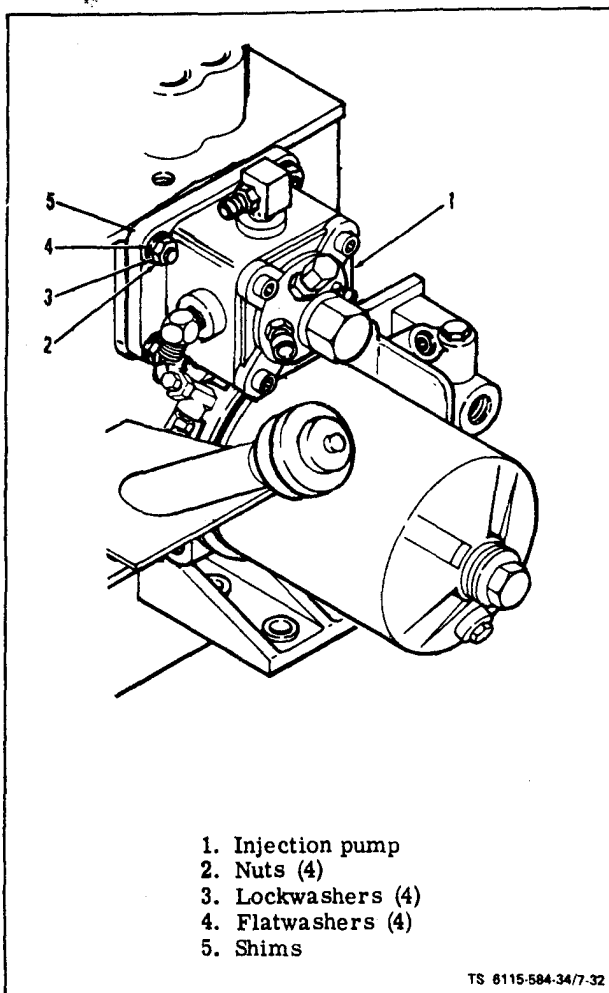
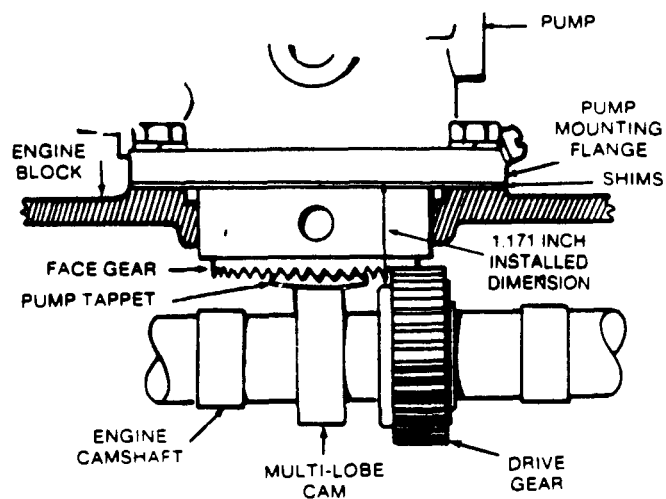

Figure 7-32. Injection Pump
Figure 7-33A. Pump Installed
a. Removal (see figure 7-32).
(1) Snap off governor linkage from injection pump (1), and governor control arm and remove linkage.
(2) Refer to paragraph 7-2 and disconnect inlet and fuel return lines from pump. Tag and disconnect high pressure lines at injector nozzle end at injector pump.
(3) Remove four hexagon nuts (2, figure 7-32), lockwashers (3), and flatwashers (4) holding pump (1) to crankcase and lift pump off crankcase. Be careful to retain the shims (5) between the crankcase and pump. The correct thickness of shims as stamped on the crankcase is important to proper pump operation; it provides the proper gear lash. This thickness does not change when a new pump is installed. It changes only when a new cylinder block is installed. To calculate new shim thickness, measure between camshaft and engine block pump mounting surface. Subtract that measurement from 1.171 inches. This will be the shim thickness. Refer to fig. 7-33A. Use Gage, Depth, Micrometer NSN5210-00-542-4602 for this measurement.